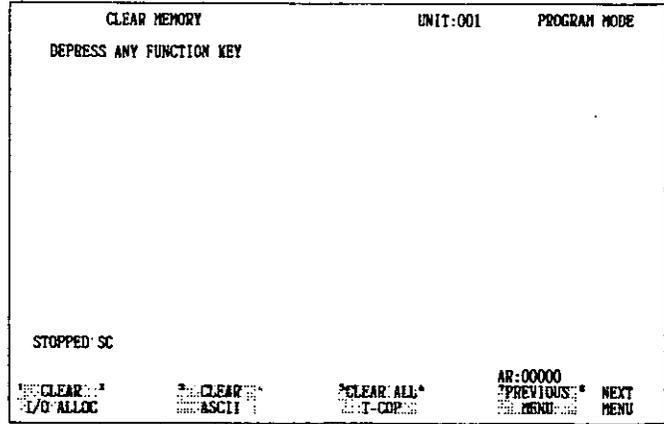
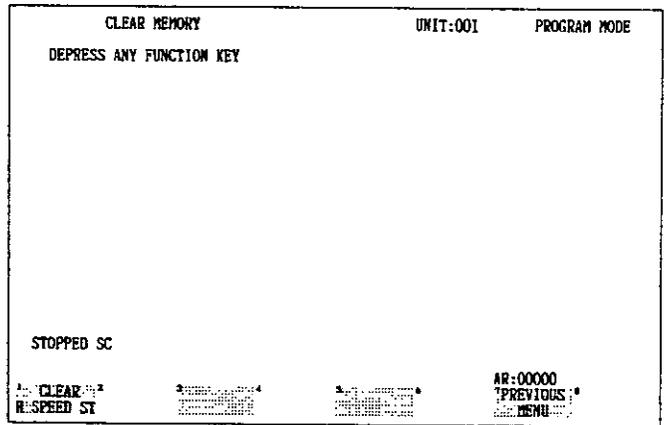

Fig. 4.19
Fig. 4.20
Fig. 4.19 is displayed.
1. **PREVIOUS MENU** selection in Fig. 4.19 calls up the display shown in Fig. 4.17.
2. **PREVIOUS MENU** selection in Fig. 4.20 calls up the display shown in Fig. 4.19.